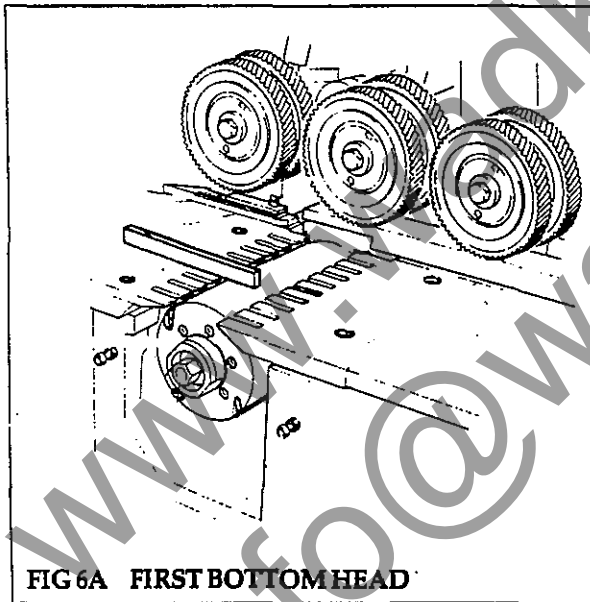

FIG 6A FIRST BOTTOM HEAD
First Bottom Head (Fig 6A, 6B, Fig 2)
- (1) Remove guard for access.
- (2) Ensure the outfeed table is clean.
- (3) Place a straightedge on the outfeed table projecting over the bottom horizontal cutterblock (Fig 6A). The cutter blades should just touch the underside of the straightedge.